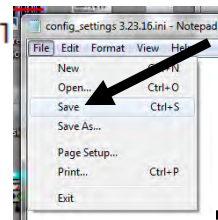

Figure 9
16. Click on File and Save (see Figure 9).